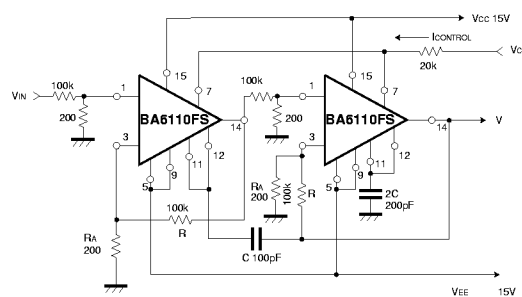

Fig.5 Voltage-controlled secondary low pass filter
(3) Fig. 5 shows a voltage-controlled secondary low passfilter as an example of an application of the BA6110FS.